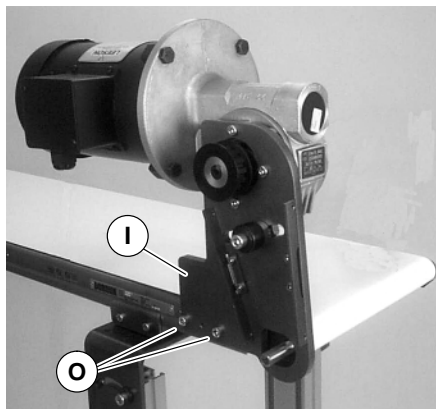

Figure 6
4. Attach mount assembly (I of Figure 6) with screws (O). Tighten to 80 in-lb (9 Nm). For 4100 conveyors, proceed to step 7.